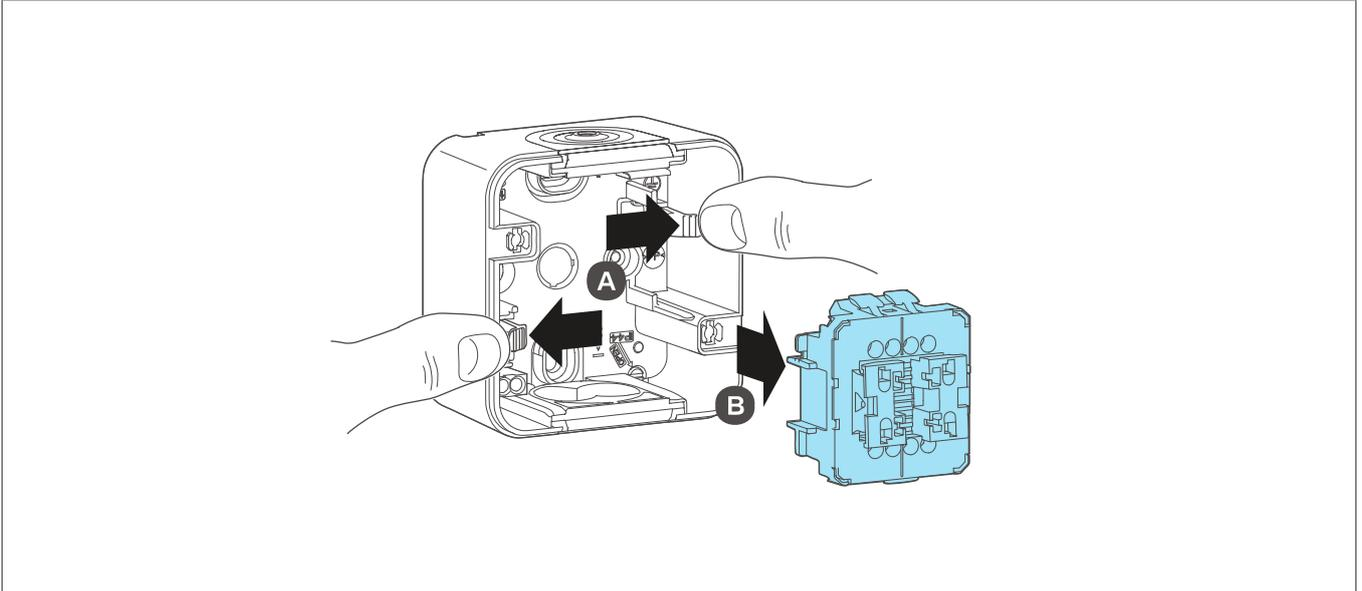

Fig. 5: Remove the insert
- 4 Press the brackets (7) outwards on each side (A) and remove the insert (4) from the housing bottom part (B) (Fig. 5).